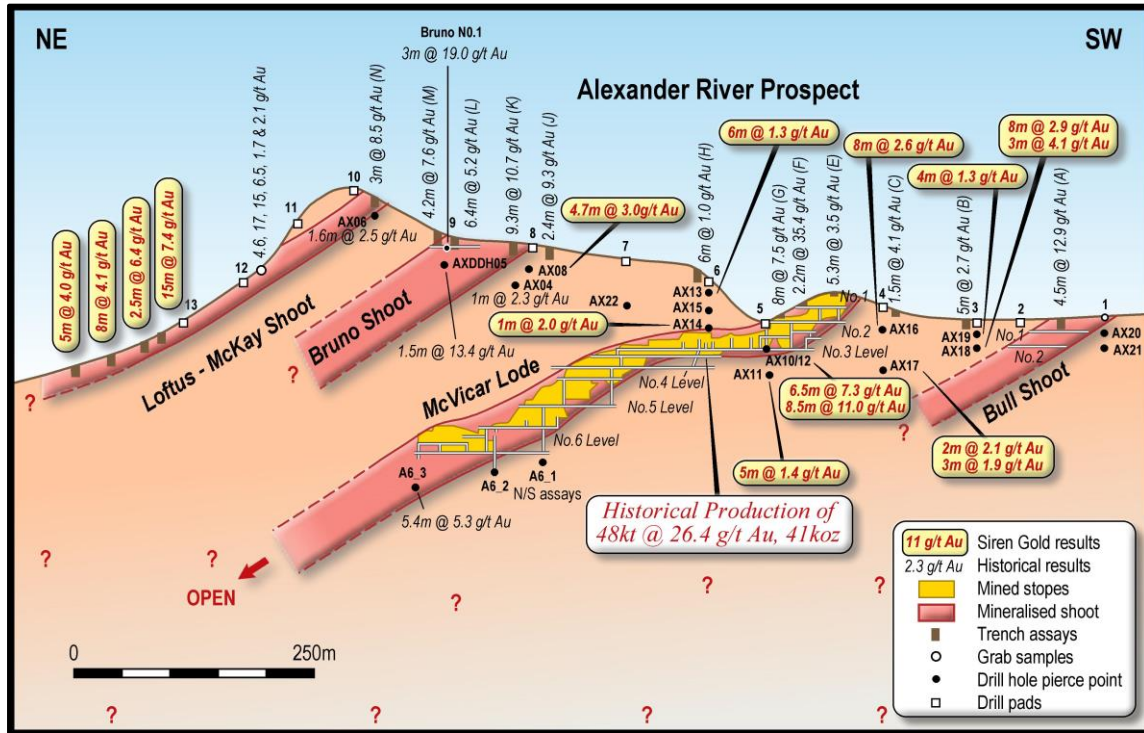

Figure 4 Schematic long section
- AXDDH020 and 21 were drilled from Pad 1 and did not intersect any gold and were probably drilled into the footwall of the Bull Shoot and the Alexander mineralised zone (Figure 4). Pad 2 was not used as it was only 35m from Pad 3. Results now indicate that this may be a good site to intersect the Bull Shoot so will be drilled after the initial Loftus-McKay drilling is completed.
The drilling at Alexander River to date has been testing the near surface (25-75m) mineralisation aimed at confirming the trench results and the thickness and orientation of the mineralised zone along the 1.2km strike length. Drilling to date by Siren over ~500m of the strike length has generally intersected relatively thick mineralisation confirming trench results with high grade mineralisation intersected adjacent to the historically mined McVicar Shoot; 8.5m @ 11g/t Au in AXDDH012 and 6.9m @ 7.3g/t Au in AXDDH010 and lower grade mineralisation between the shoots; 4.7m @ 2.9g/t Au in AXDDH008, 8m @ 2.6g/t Au in AXDDH016 and 8m @ 2.9g/t in AXDDH018 (Figure 4).